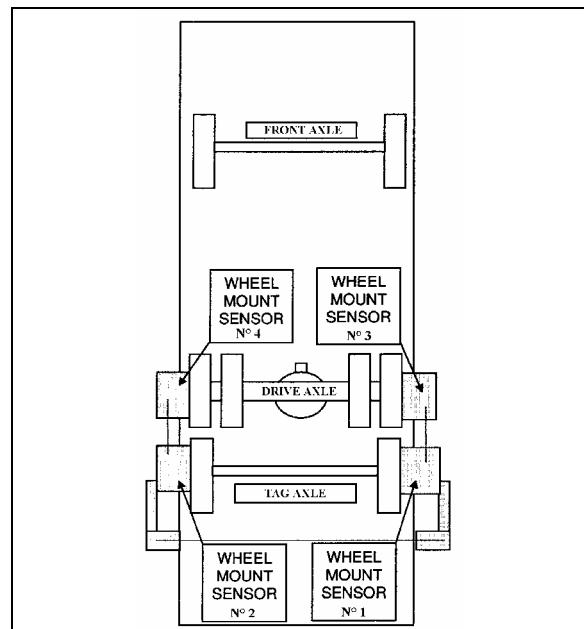

FIGURE 8: TAG AXLE ALIGNMENT 11026
- Remove and reinstall all wheel mount sensors on the drive and tag axes (fig. 8);
Note: Reinstall wheel mount sensors as shown in figure 8. For example, the sensor from the right side of the front axle is mounted on the left side of the tag axle. For corresponding wheel mount sensor reference numbers, refer to figure 6.